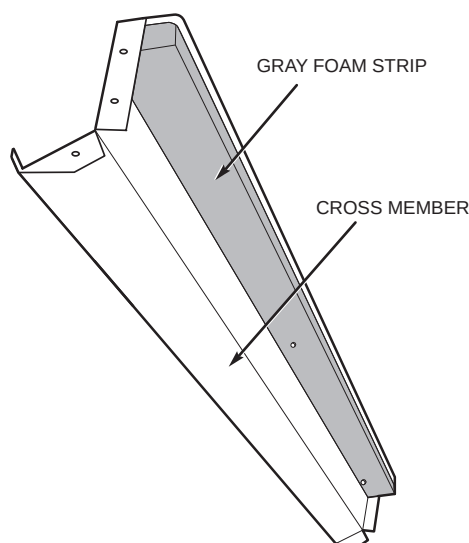

Fig. 20 — Adding Foam Strip to Cross Member
6. Add gray foam strip (provided in package) to cross members on bottom tray. See Fig. 20.